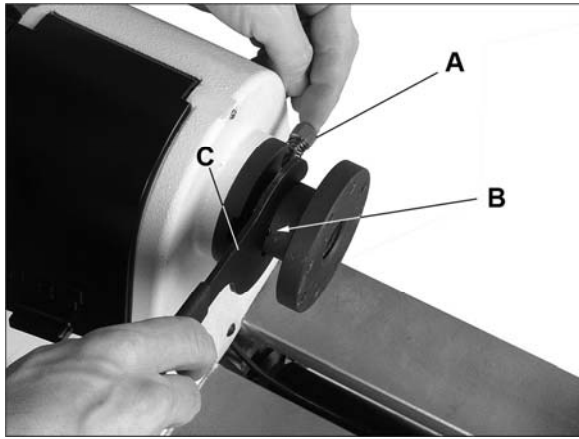

Figure 5
Referring to Figure 5:
7. Engage spindle lock (A, Figure 5).
8. Place wrench (C) over flats, and turn to unscrew faceplate.